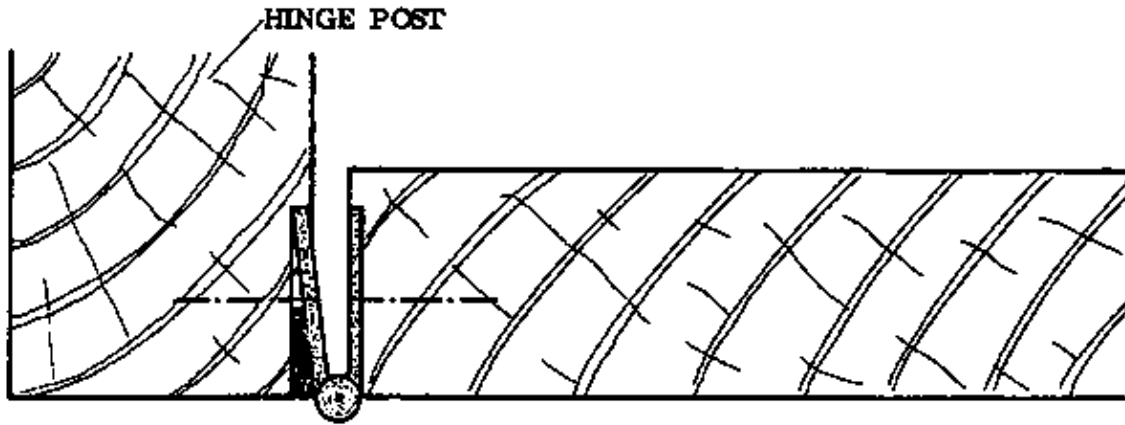

Fig. 1
– When a door binds (catches or rubs) on the hinge post, insert thin pieces of wood at the face edge of the hinges (near the pin) until the problem is relieved (Fig. 1). A strip about 1 cm wide and as long as the hinge will do.